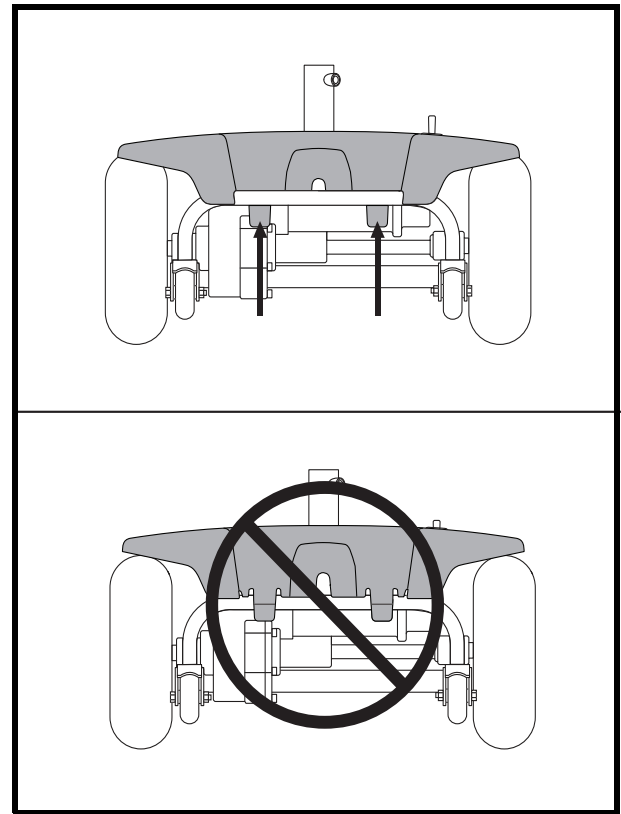

Figure 9. Locking Tabs on Scooter Body Shroud (rear view)
- Lower the scooter shroud over the unit and snap the locking tabs in place behind the rear frame bar. See **figure 9**.